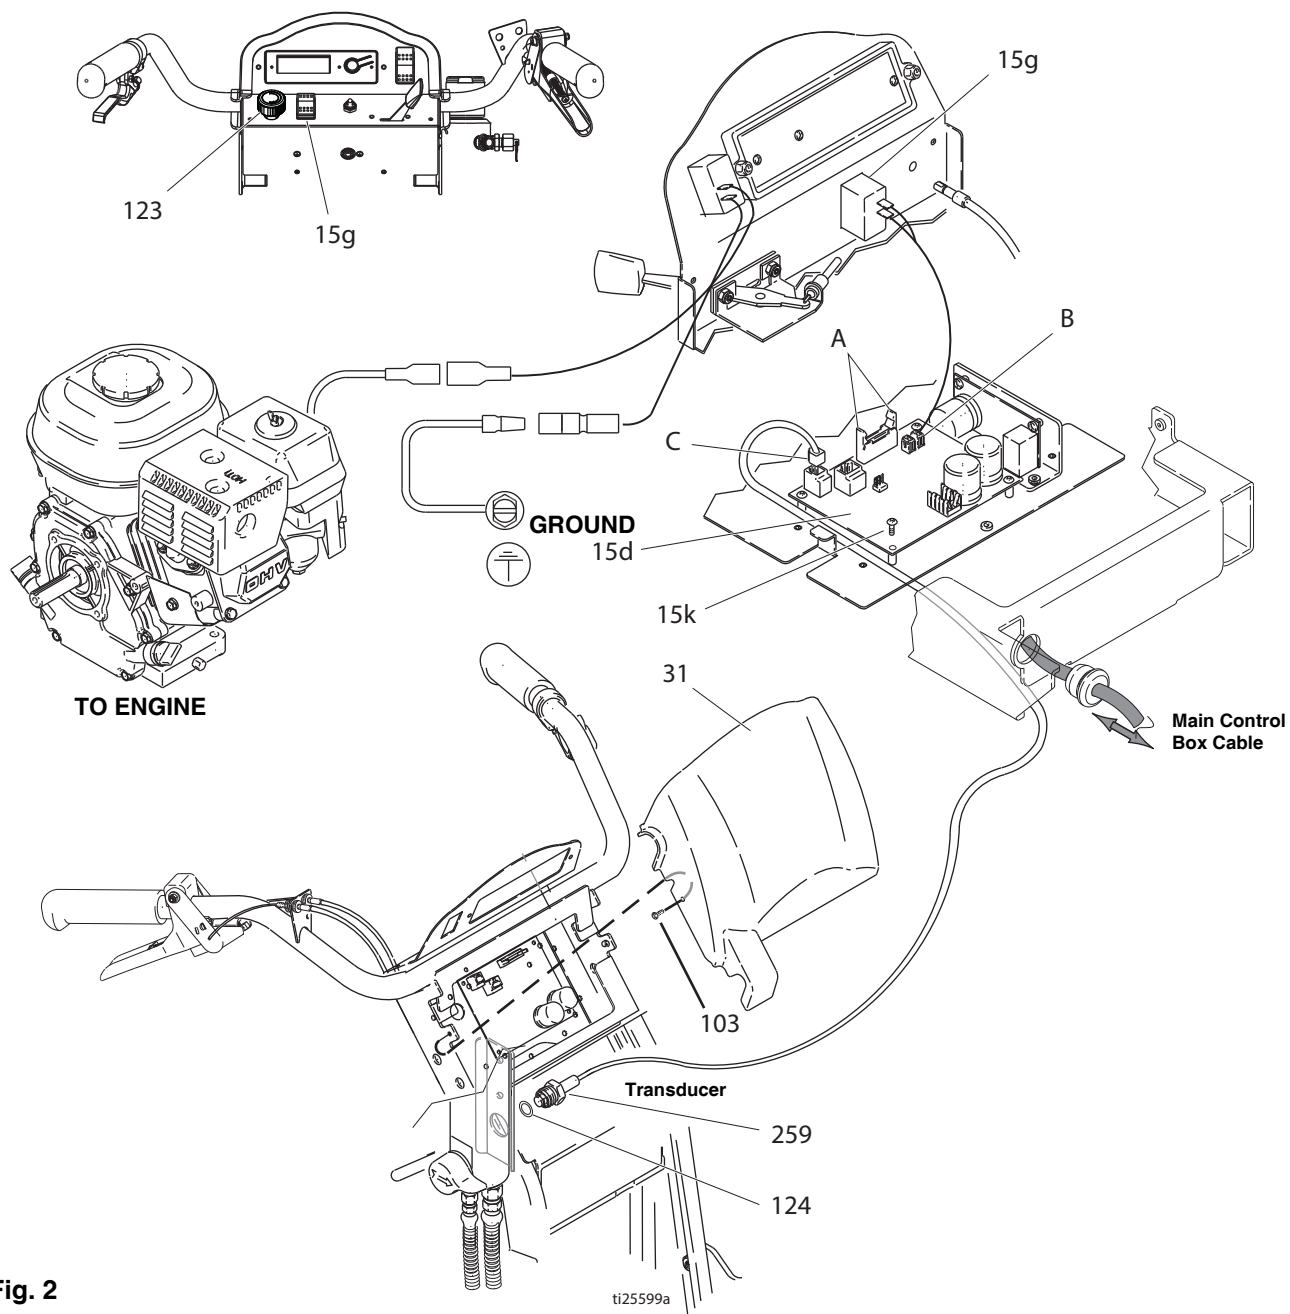

Fig. 2
- 2 Fig. 2. Remove screws (103) and front cover (31).
- 3 Pull display connector wings (A) open on PC board and pull display connector out.
- 4 Disconnect ON/OFF switch connector (B) from PC board.
- 1 Fig. 2. Install new ON/OFF switch (15g) so tabs of switch snap into place on inside of pressure control housing.
- 2 Connect ON/OFF switch connector (B) to PC board.
- 3 Push display connector into PC board and close display connector wings (A) on PC board.
- 4 Install cover (31) with two screws (103).
- 2 Fig. 2. Remove two screws (103) and cover (31).
- 1 Fig. 2. Install control board (15d) and four screws (15k). Torque to 105-115 in-lb.
- 3 Push display connector into PC board close display connector wings (A) on PC board.
- 3 Disconnect transducer lead (C) from control board (15d).
- 4 Remove pressure control transducer (259) and o-ring (124) from filter housing.
- 1 Fig. 2. Install o-ring (124) and pressure control transducer (259) in filter housing. Torque to 35-45 ft-lb.
- 2 Connect transducer lead (C) to motor control board (15d).
- 3 Install cover (31) with two screws (103).